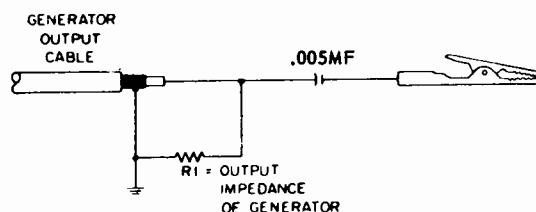

Figure 7 - Generator cable termination.
**Generators** - Except where otherwise noted, all signal generating equipment should be terminated as shown in Figure 7. Connect the signal cable ground near the ground of the stage where the signal is injected.